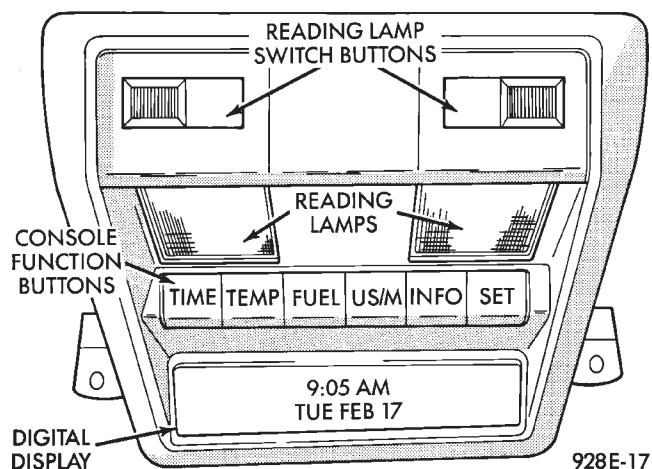

Fig. 5 EVIC Overhead Console
- (1) Remove console, refer to Console Replacement (Fig. 5).
- (2) Remove six mounting screws holding bezel to housing.
- (3) Remove switch assembly by pulling down mounting tabs and swing assembly out of position.
- (4) Disconnect switch wiring connector and replace electronic board assembly.
- (5) For installation reverse above procedures.